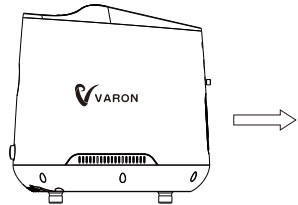

Figure 5
- Pull out the humidification bottle gently along the direction shown in the figure,pull out the rubber plug at the top and add cold the purified water of exceeding the maximum water level. (Figure 5)